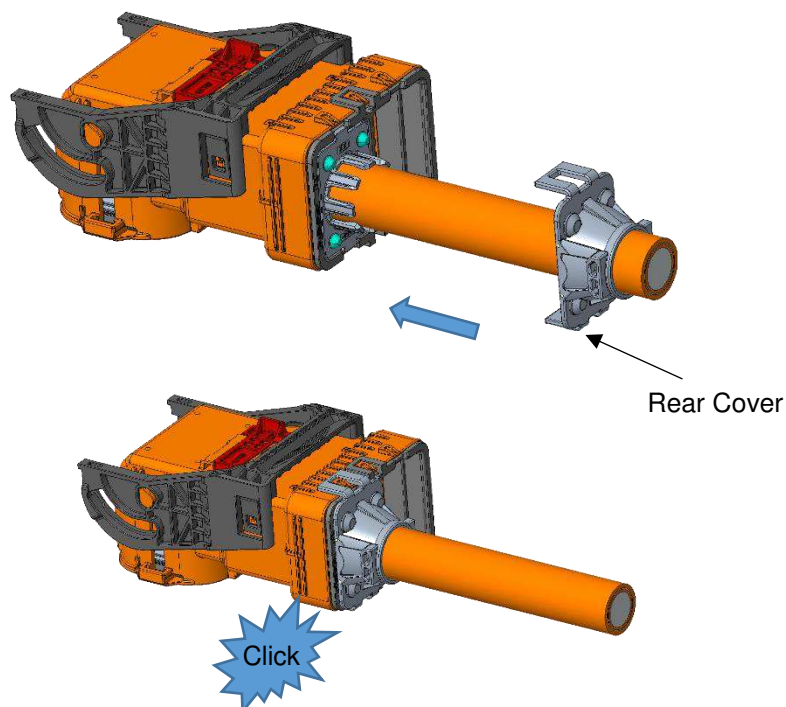

Figure 12: Rear Cover Assembly
11. With HV Tab fully contacting the Plug Inner Housing (refer to Figure 9), slide the rear cover forward on the cable and latch to the plug sub-assembly as shown in Figure 12. Verify that both rear cover latches are fully locked.